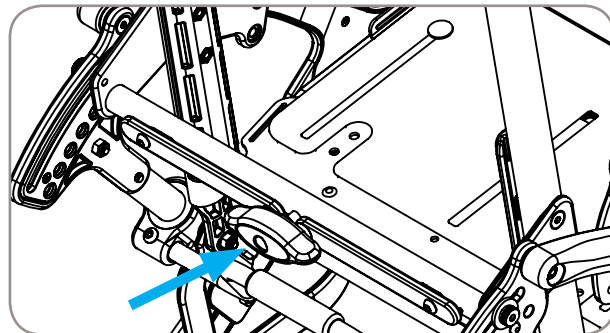

Figure 9, Locked
6. To verify hip angle is locked, check alignment of handle assembly. Linkages should be parallel to tube as shown in Figure 9.